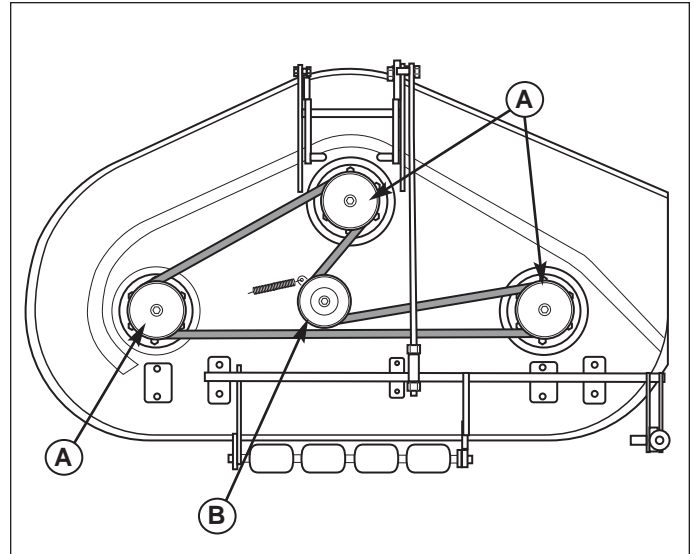

Figure 36. Mower Deck Drive Belt Routing All Models
6. Install a new belt as shown in Figure 36. Make sure that V-side of belt runs in arbor pulley (A) grooves and flat side of belt runs against idler pulley (B).